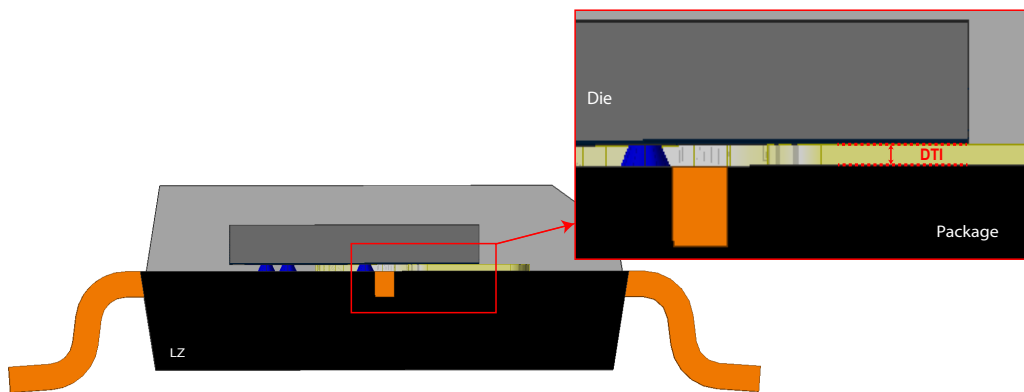

Figure 5: Distance through insulation (DTI)
**Distance through insulation (DTI):** DTI is the minimum distance through the internal insulation between the IP loop and the die (see Figure 5). The standard requires either a minimum DTI or extra testing to verify that the insulation system is adequate for the ratings. Allegro current sensor insulation undergoes extensive high-voltage testing to meet the requirements.